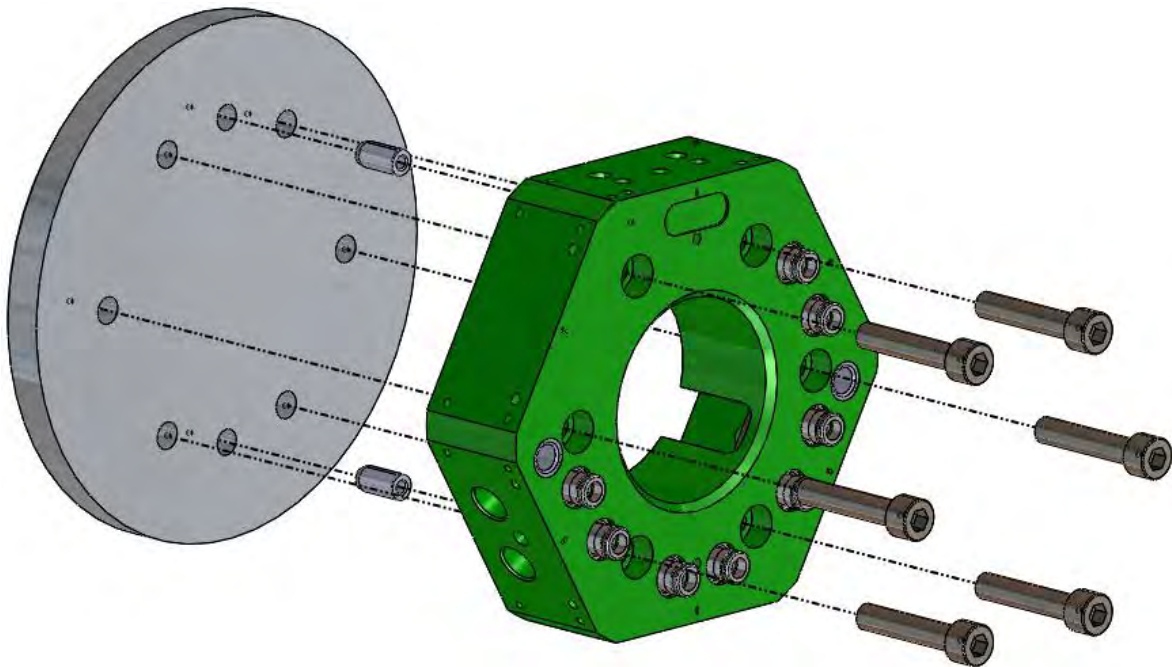

Figure 5.2-1. ET125LP Tool Adaptor Installation (Bolt Top Down)
1. Locate the Tool Adaptor to the tool plate utilizing two (2) M10 locating dowels (Figure 5.2-1). Note that the ET125LP Tool Adaptor does not contain an option to use a locating hub for mounting to a tool plate.